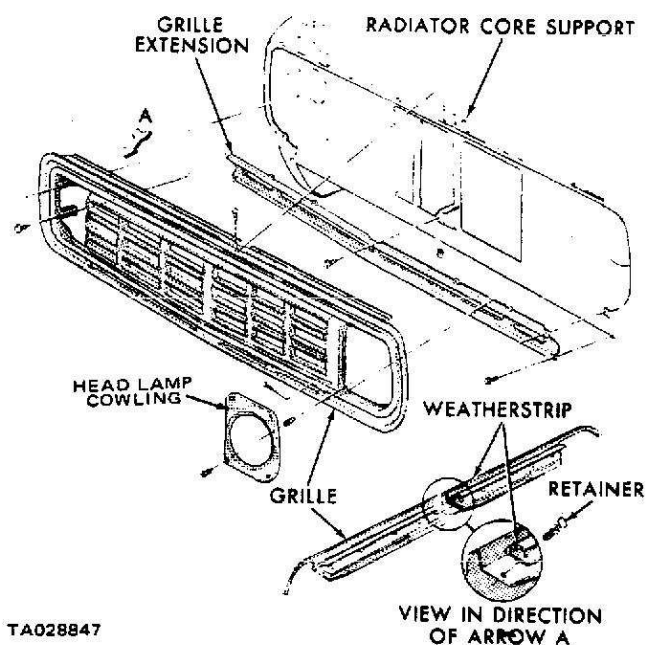

Figure 2-98. Grille Assembly (Models Manufactured Before August 15, 1976).
- a. *Removal.* Refer to figure 2-98.